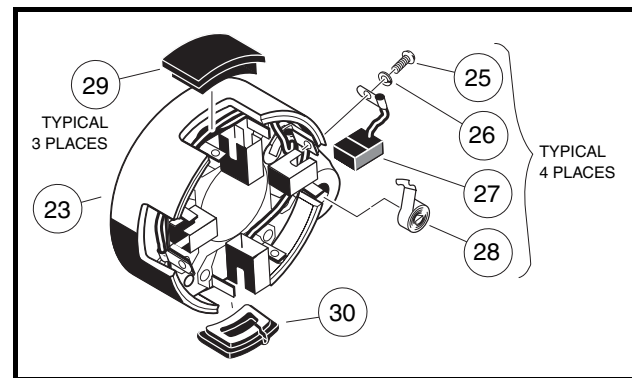
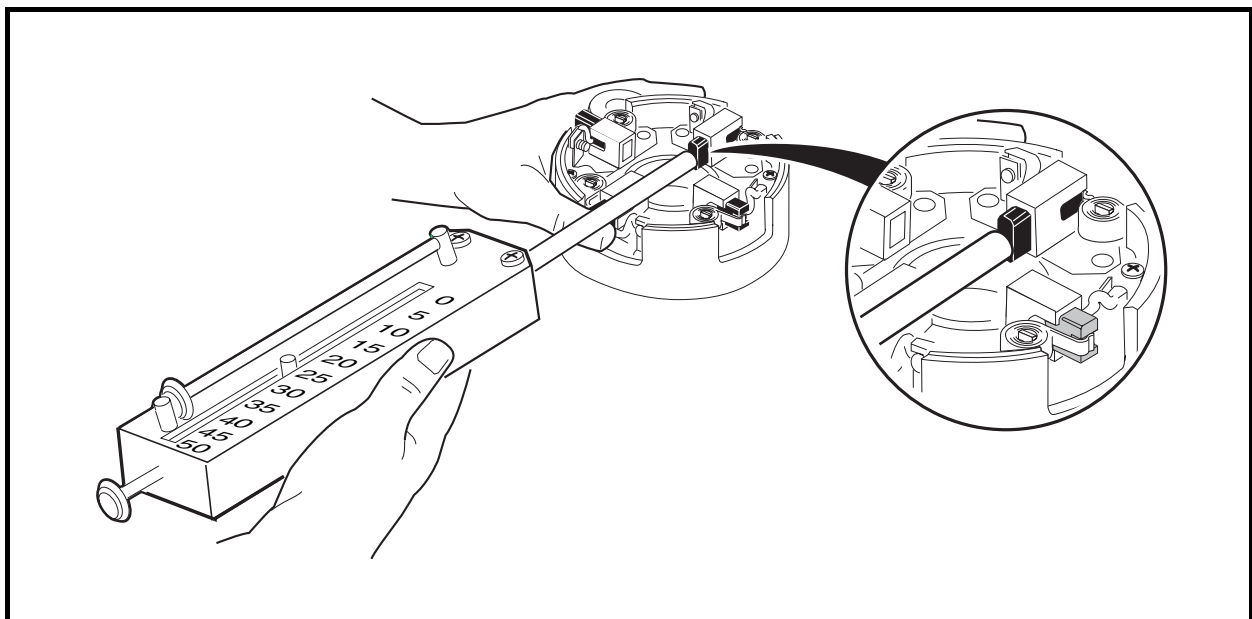

Figure 14-3 Brush Covers and Brushes
Figure 14-5 Brush Spring Tension Test
- Remove brush covers (29 and 30), screws (25) and lock washers (26), brush springs (28), and brushes (27) (**Figure 14-3, Page 14-2**). See following **NOTE**.
2. Install the four brushes (27) into their holders and insert the four brush springs (28) (**Figure 14-3, Page 14-2**). Using a spring scale, test brush spring tension. If any spring has a tension less than 24 ounces (6.67 N), replace all four springs (**Figure 14-5, Page 14-3**). **See following CAUTION.**
1. Connect the brush wires to the holders using four lock washers (26) and four screws (25), making sure the crossover leads are connected also. Tighten the screws to 31 in-lb (3.5 N·m) (**Figure 14-3, Page 14-2**).
4. Push the brushes down into the holders. Position springs into the notches in the brushes. Install the brush cover (30) that has the drain hole in it next to the A2 terminal. Install the remaining three brush covers (29) in the openings in the commutator end cover (23) (**Figure 14-3, Page 14-2**).
10. Push the brushes down into the holders. Place springs into the notches in the brushes. Install the brush cover (30) that has the drain hole in it next to the A2 terminal. Install the remaining three brush covers (29) in the openings in the commutator end cover (23) (**Figure 14-3, Page 14-2**).